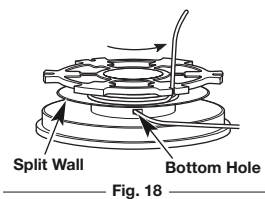
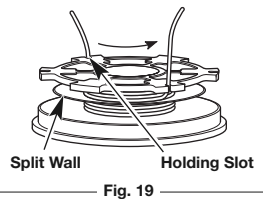

Fig. 18
Fig. 19
- Insert the end of the other line into the bottom hole in the inner reel (Fig. 18). Wind the line tightly in the direction shown on the bottom of the inner reel until about 3 to 9 inches (75 to 225 mm) of line remains. Keep the line below the split wall. Insert the 3 to 9-inch section into the opposite 0.095 holding slot (Fig. 19).